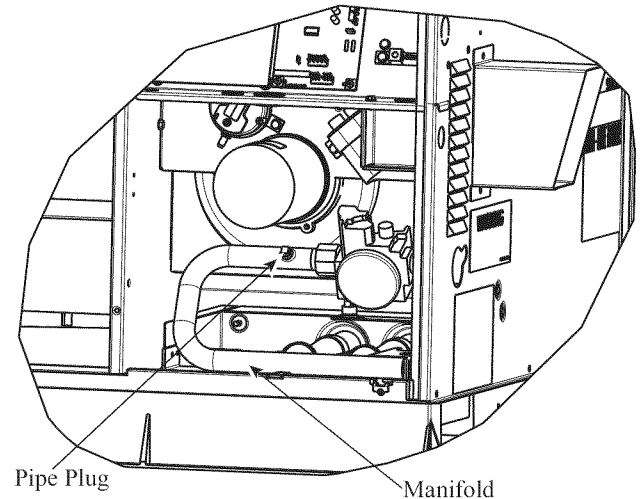

Fig. 11 - Burner Assembly
2. Remove pipe plug on manifold (See Fig. 11) and connect manometer. Turn on gas supply to unit.
4. Turn off gas supply to unit. Remove manometer from pressure tap and replace pipe plug on gas valve. (See Fig. 11.) Turn on gas to unit and check for leaks.